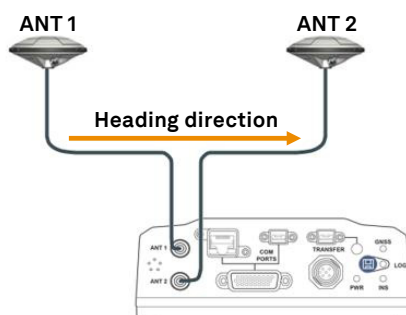

Figure 1: Heading direction, computed from Ant 1 to Ant 2
- Place both antennas as far from each other as possible. The GNSS heading direction is computed from Ant 1 to Ant 2 (see Figure 1). The accuracy of the solution is determined mainly by the distance (or baseline) between both antennas. The larger the baseline, the better the heading precision will be. Veripos recommend a minimum baseline of two metres.